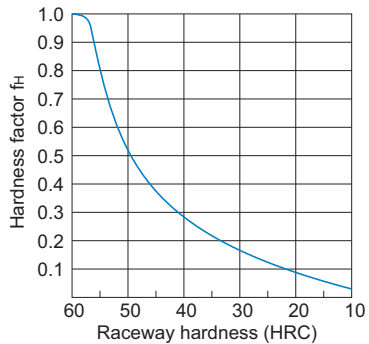

Fig.2 Hardness Factor (f_H)
- C : Basic dynamic load rating (N)
- P_C : Calculated radial load (N)
- f_H : Hardness factor (see Fig.2 on **B5-6**)